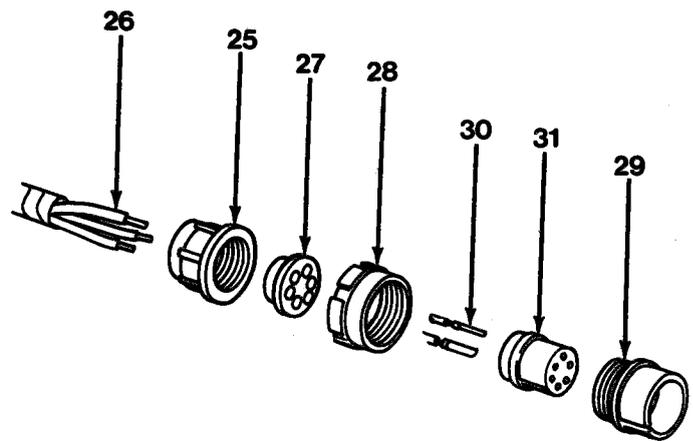

Figure 10-7
1. Strip cable insulation equal to depth of solder wells of socket contacts (30, Figure 10-7).
2. Slide nut (25) over cable.
3. Slide grommet (27) over cable leads (26).
4. Insert cable leads (26) into solder wells of socket contacts (30) and solder (use rosin core solder only).
5. Push insert (31) into shell (29) from rear until seated. Groove in insert (31) must be aligned with guide in shell (29) to insure proper fit.
6. Push socket contacts (30) into insert (31) from rear until seated.
7. Slide coupling nut (28) onto shell assembly.
8. Push grommet (27) down cable leads (26) and over spider wells of socket contacts (30).
9. Screw nut (25) onto shell assembly.